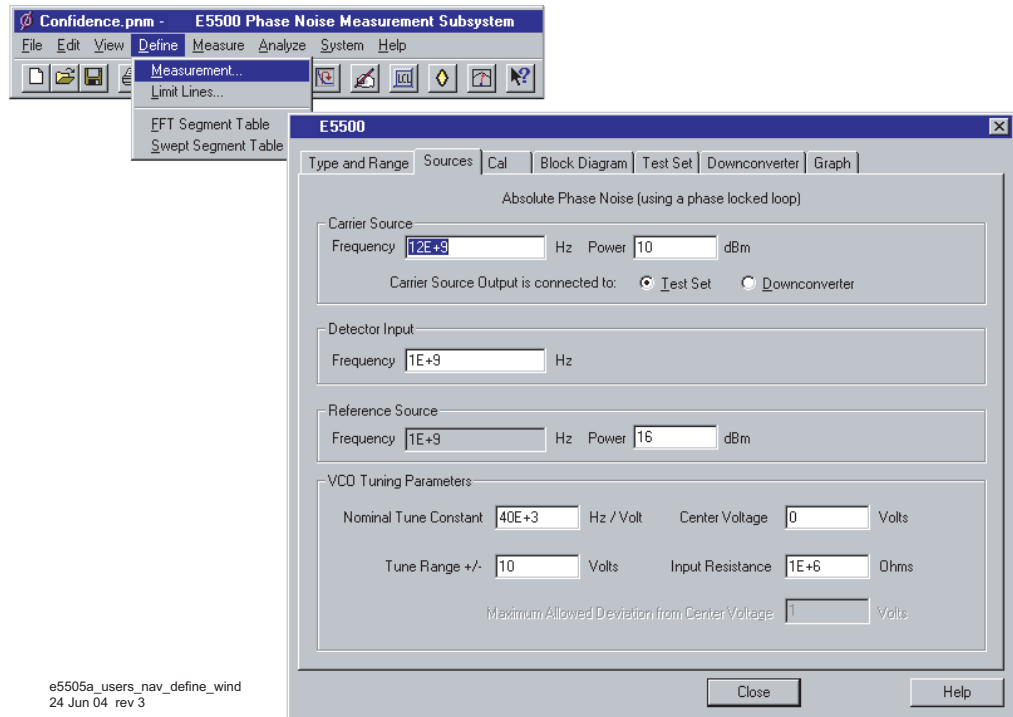

Figure 7 Navigating to the Define Measurement window
- 5 To view the parameter data in the software, navigate to the Define Measurement window. Use Figure 7 on page 42 as a navigation guide. The parameter data is entered using the tabbed windows. Select various tabs to see the type of information entered behind each tab.